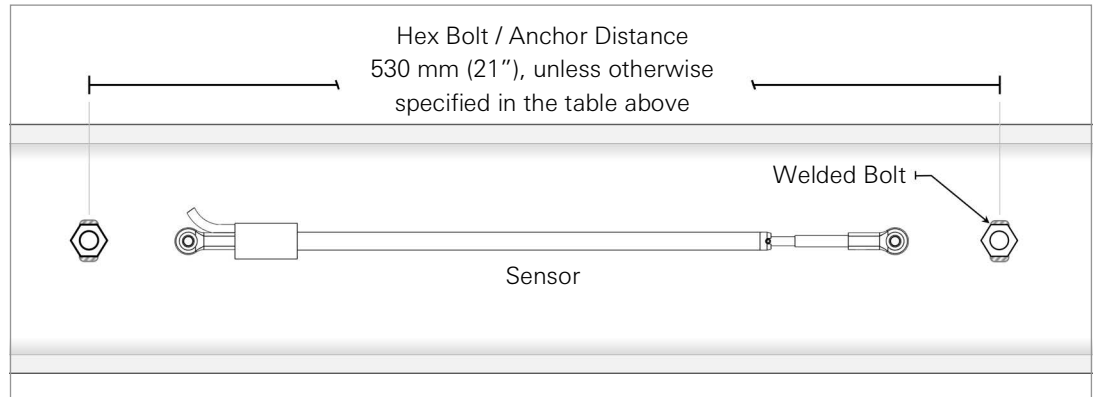

FIGURE 7: Hex Bolt / Threaded Rod Locations, (Model 4000-6) Steel Installation Shown
1. Mark two areas centered on either side of the sensor location (see Figure 7 for reference) using Model 4000-10 Installation Template (for singular covers), or flip the cover plate onto its back and mark using the holes of the plate.